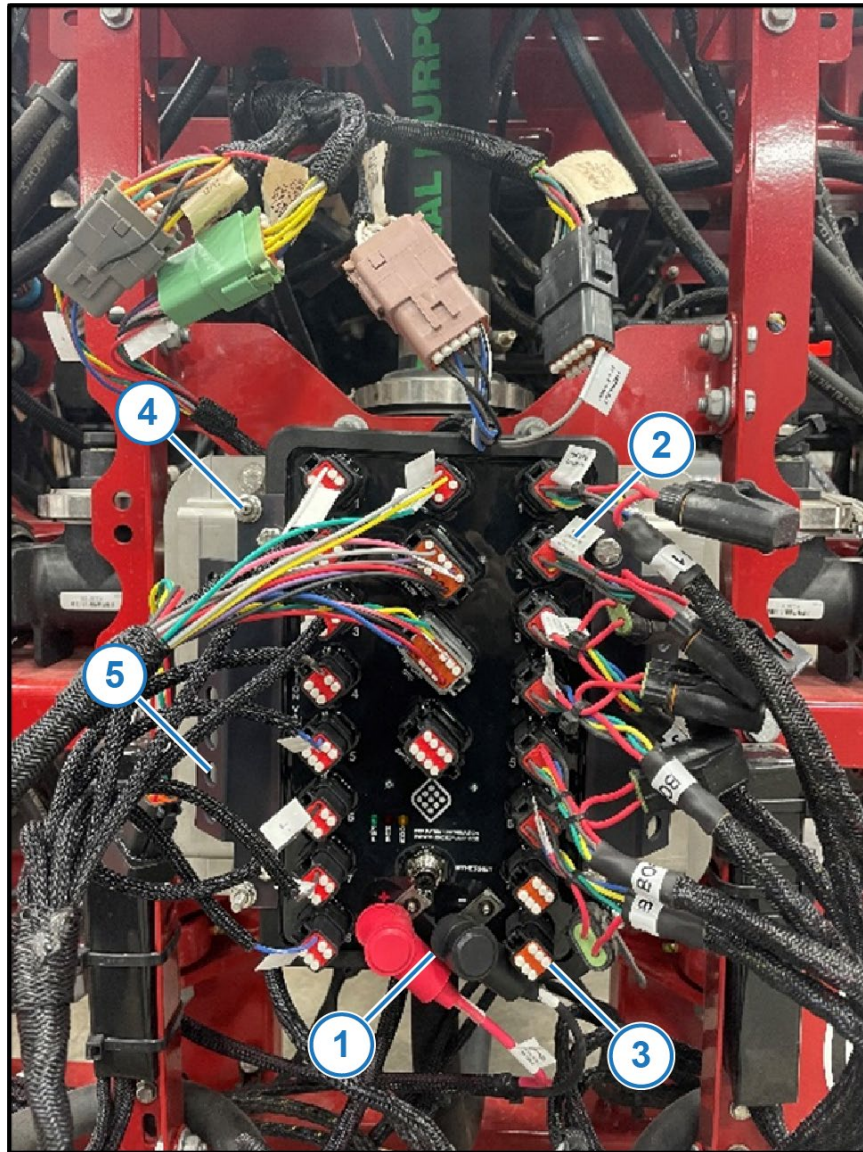

Figure 6 — PCII Replacement and Power Harness Connections
8. *Figure 6:* Attach power harness to Envelop Hub positive and negative terminals (1) using supplied bolts and flange nuts.
9. Plug each VCM extension harness into its corresponding numbered port (2).
10. Insert dust plugs into unused ports (3).
11. Insert ¼" bolts from backside of strain relief brackets and attach with flange nuts (4).
12. Zip tie harnesses to strain relief brackets (5) so that there is a small amount of slack in hub side wiring.